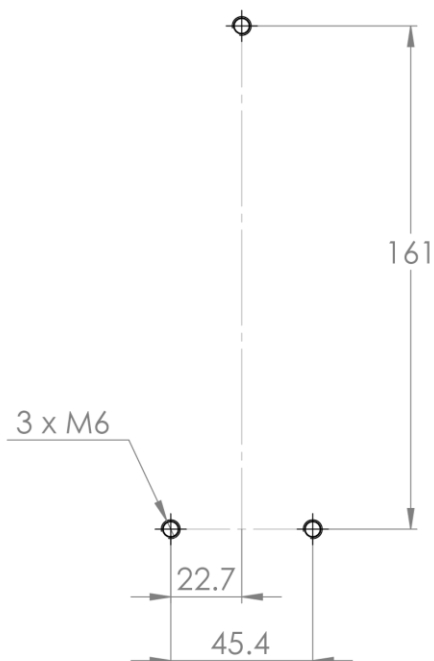

Figure 5-4 Remote Pendant Cradle Mounting Hole Pattern (mm)
- STEP 1 Drill three M6 holes to suit the mounting hole pattern for the cradle as shown in Figure 5-4.